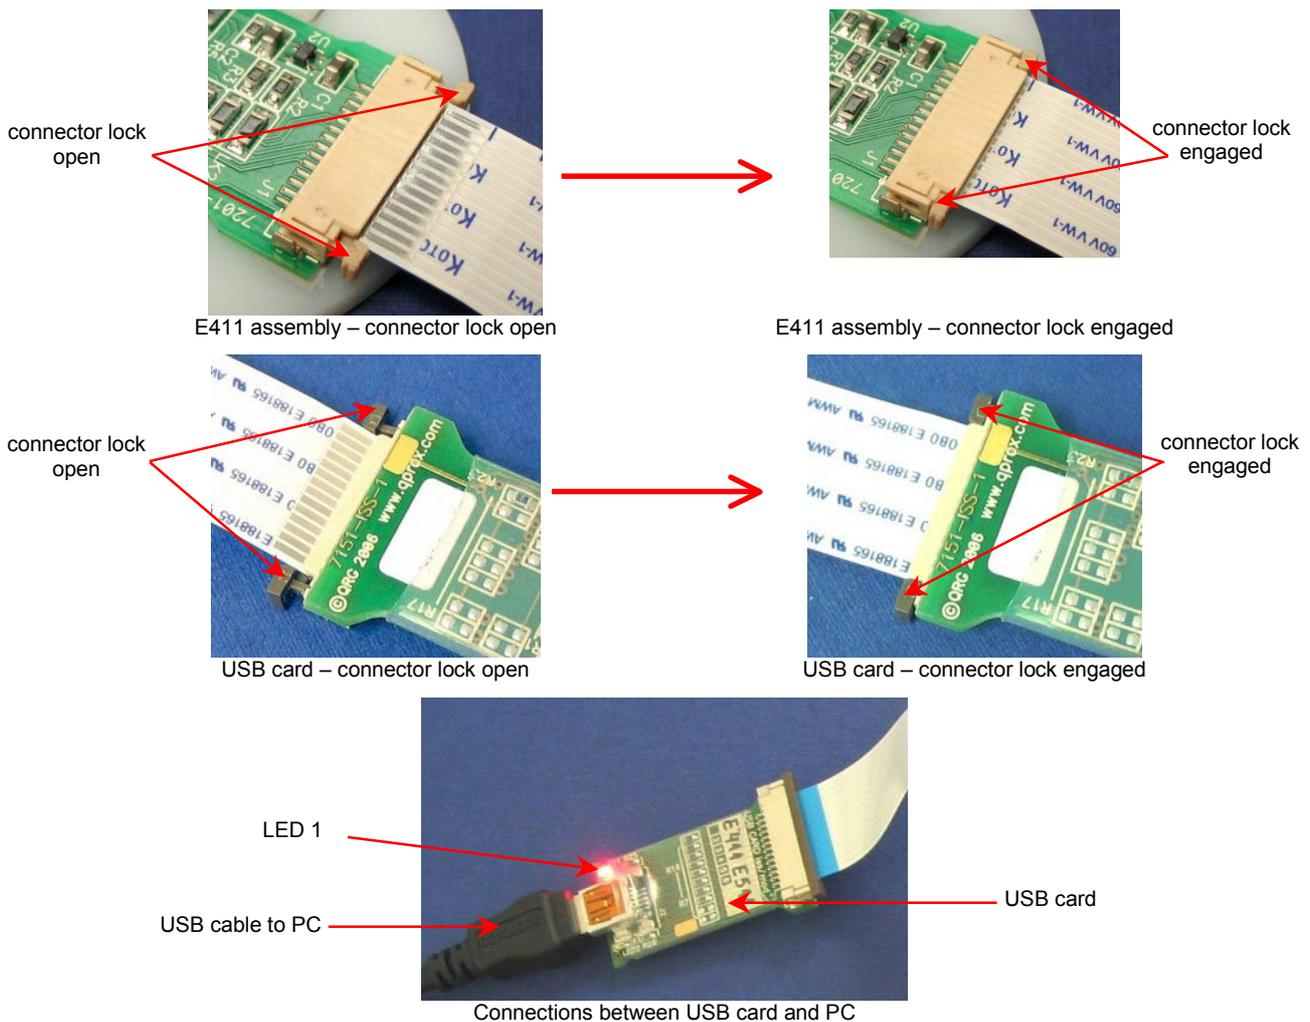

Figure 3: E411 and USB Connectors
1. Using the flat flexible cable (FFC) provided, connect the E411 assembly to the USB-SPI adapter card, ensuring correct orientation of the FFC. With the E411 connector lock open (*Figure 3*), carefully insert the end of the cable into the connector. Once fully inserted, push the connector lock tabs to close them. Check that they are fully engaged. Repeat for the USB-SPI adapter card.